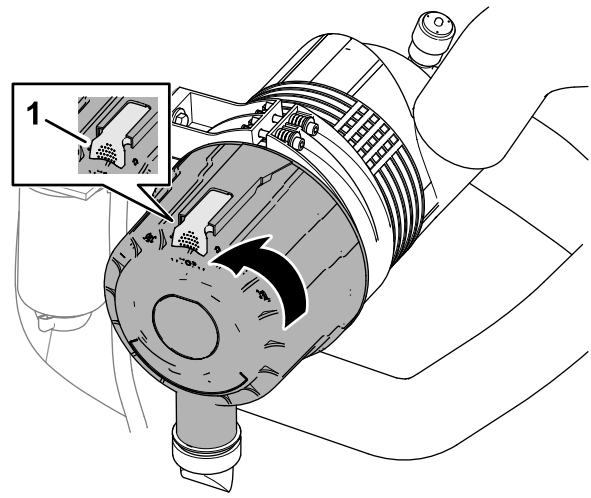

Figure 63
4. Pull the latch outward and rotate the air-cleaner cover counterclockwise (Figure 63).